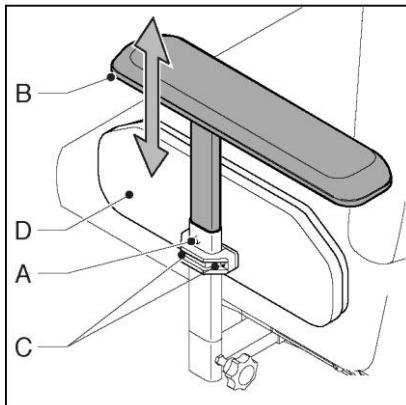

Figure 7
**Armrest height (fig 7)**
1. Loosen the Allen bolt (A) with a 4 mm Allen key.
2. Slide the armrests (B) in the desired position.
3. Tighten the Allen bolt (A) securely.
**3.5 Side panel height****Side panel height (fig 7)**